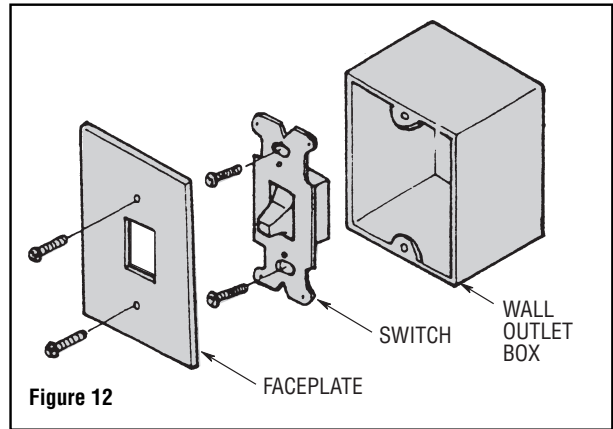
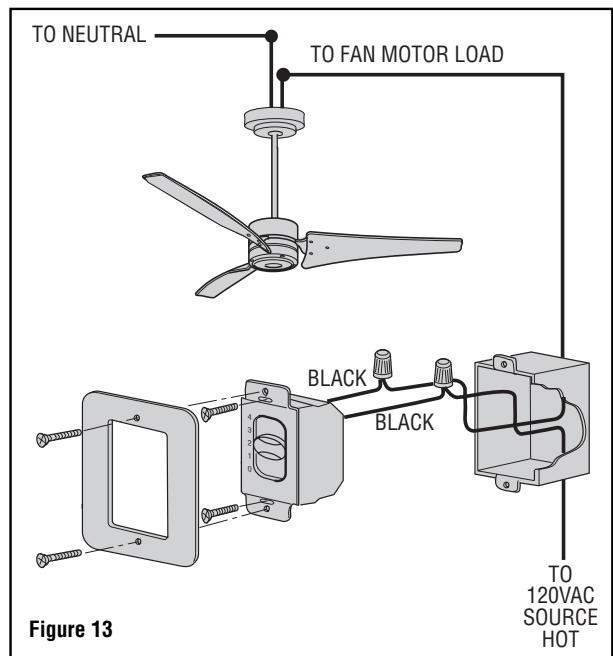

Figure 12
Figure 13
8. Disconnect wire from existing fan wall switch (Figure 12).
9. Slide the Fan Control to the OFF position (0).
10. Connect one BLACK wire from the Fan Control to the fan/motor lead with a wire connector (provided). (Figure 13.)